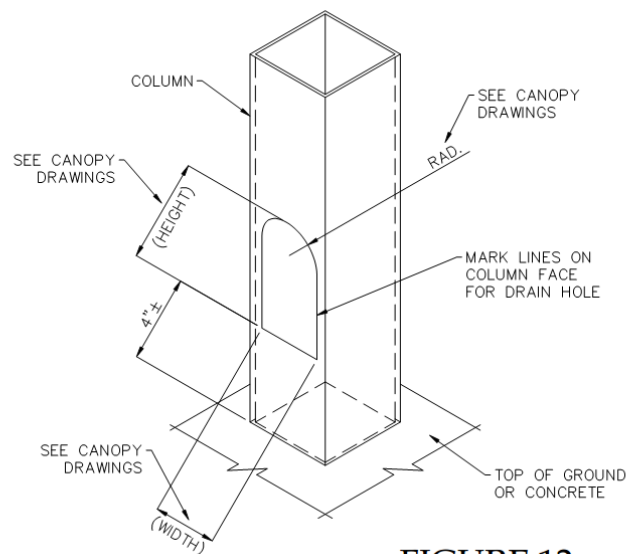

FIGURE 12
- B. At the bottom of each drain column (see canopy drawings for locations), layout the drain hole so that it is on the outside face of the column draining away from the canopy. The drain hole should be located approximately 4" from the ground or top of concrete depending on which one is lower (Figure 12).